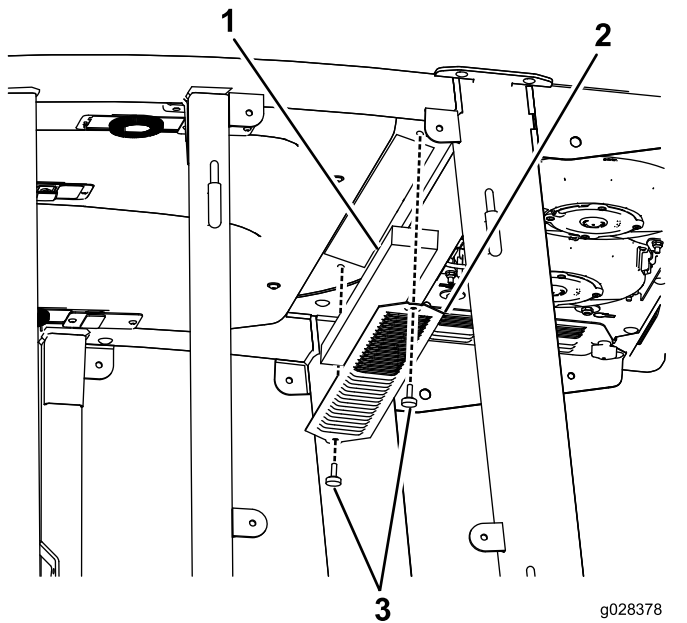
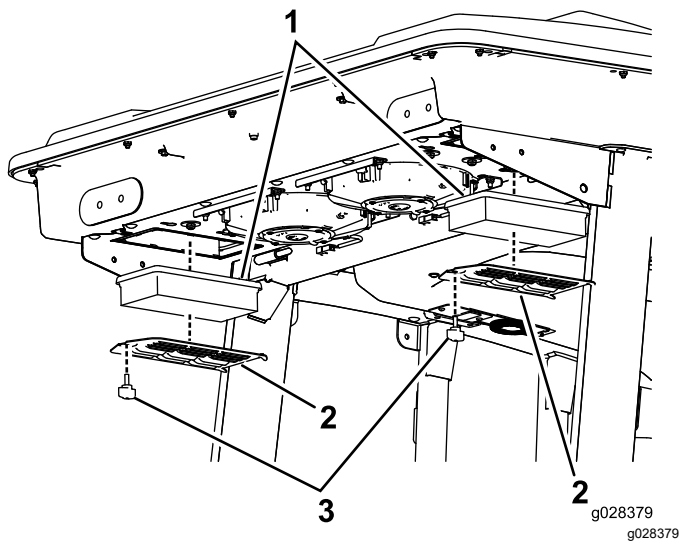

Figure 91
Figure 92
1. Remove the screws and grates from both the in-cab and rear cab air filters (Figure 91 and Figure 92).